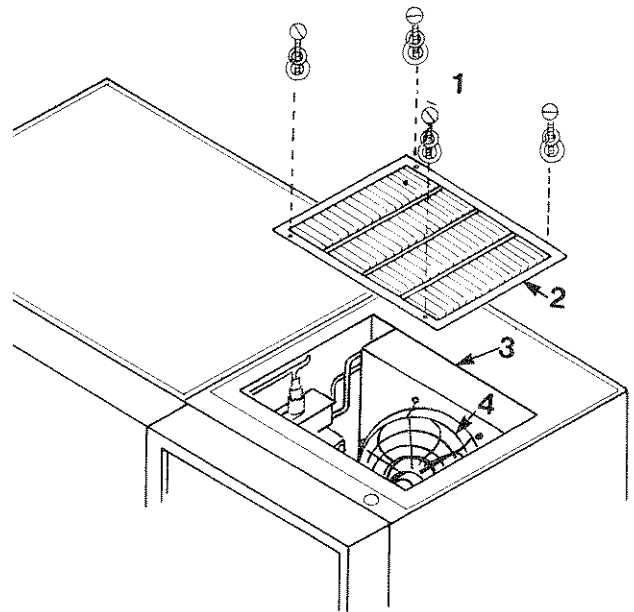

FIGURE C4
2. Remove the four screws (1) that hold the louvered panel (2) to the top of the chamber. See Figure C4.
4. From the inside of the chamber, blow all the dust and dirt from the condenser fin coil (3). Use an OSHA approved source of compressed air. Do not remove the condenser fan guard (4).